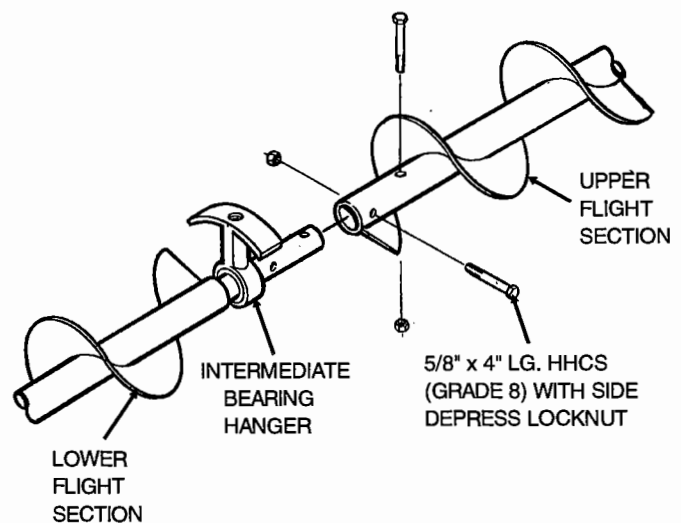

FIG. 15
2. For flights located above the gearbox, slide a bearing hanger onto each flight connecting stub, then connect the flight sections together using 5/8" x 4" long (grade 8) hex head capscrews with side depress locknuts. See Fig. 15. The bearing hanger can then be allowed to rotate downward.